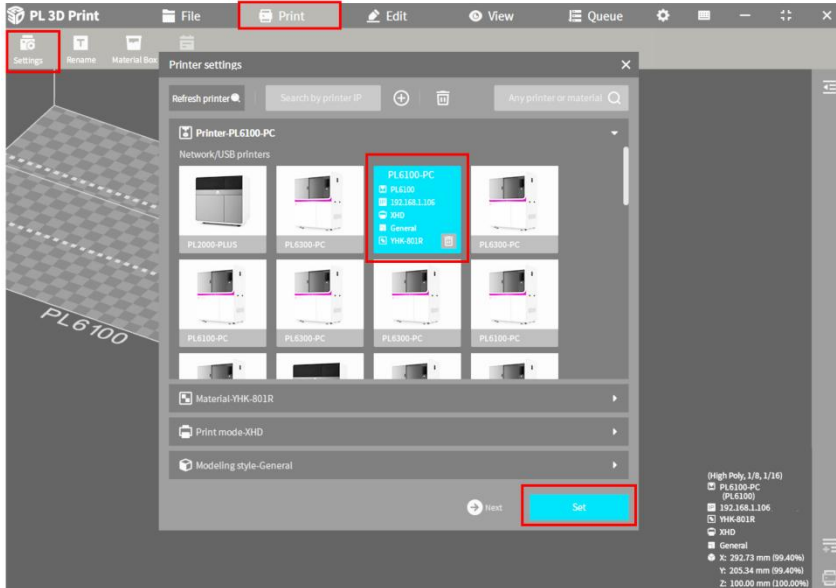

fig. 2-30 Connect Printer
- ① Double-click the **PL3D PRINT** icon  on the desktop to launch the **PL3D PRINT** software.
- ② Select **Printer**, click **Printer Settings**, choose the target printer to connect, and click the **Settings** button. See Figure 2-30.